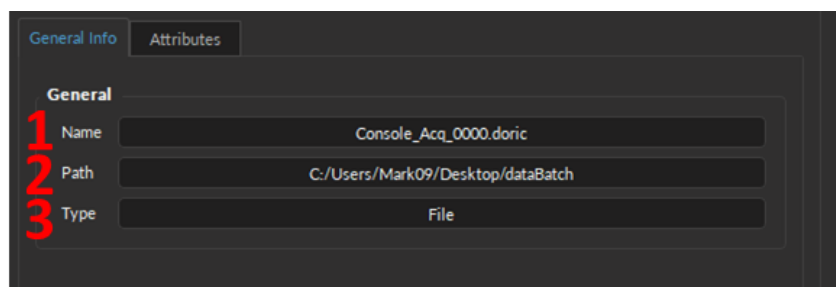

Figure 13.26: General info tab - File & Group branches
1. The **Name** (Fig. 13.26, 1) parameter displays the label given to the currently selected branch. For the **File** type, the **Name** is in fact the filename.
2. The **Path** parameter (Fig. 13.26, 2) displays the location of the selected branch (for **Group** and **Dataset** types) within the structure, following *Parent-Folder/Sub-Folder* syntax. For the **File** type, the **Path** is in fact the location of the computer where the *.doric* file is saved.
3. The **Type** parameter (Fig. 13.26, 3) displays which of three categories the selected branch belongs to:
- **File** - This type is always the trunk of the **File Manager**. By definition, no other branch can be of the file type. In addition, information about the file path can be found in **General Info** tab (Fig. 13.26, 2) and information about the date of creation and software version can be found in the **Attributes** tab of this branch type.